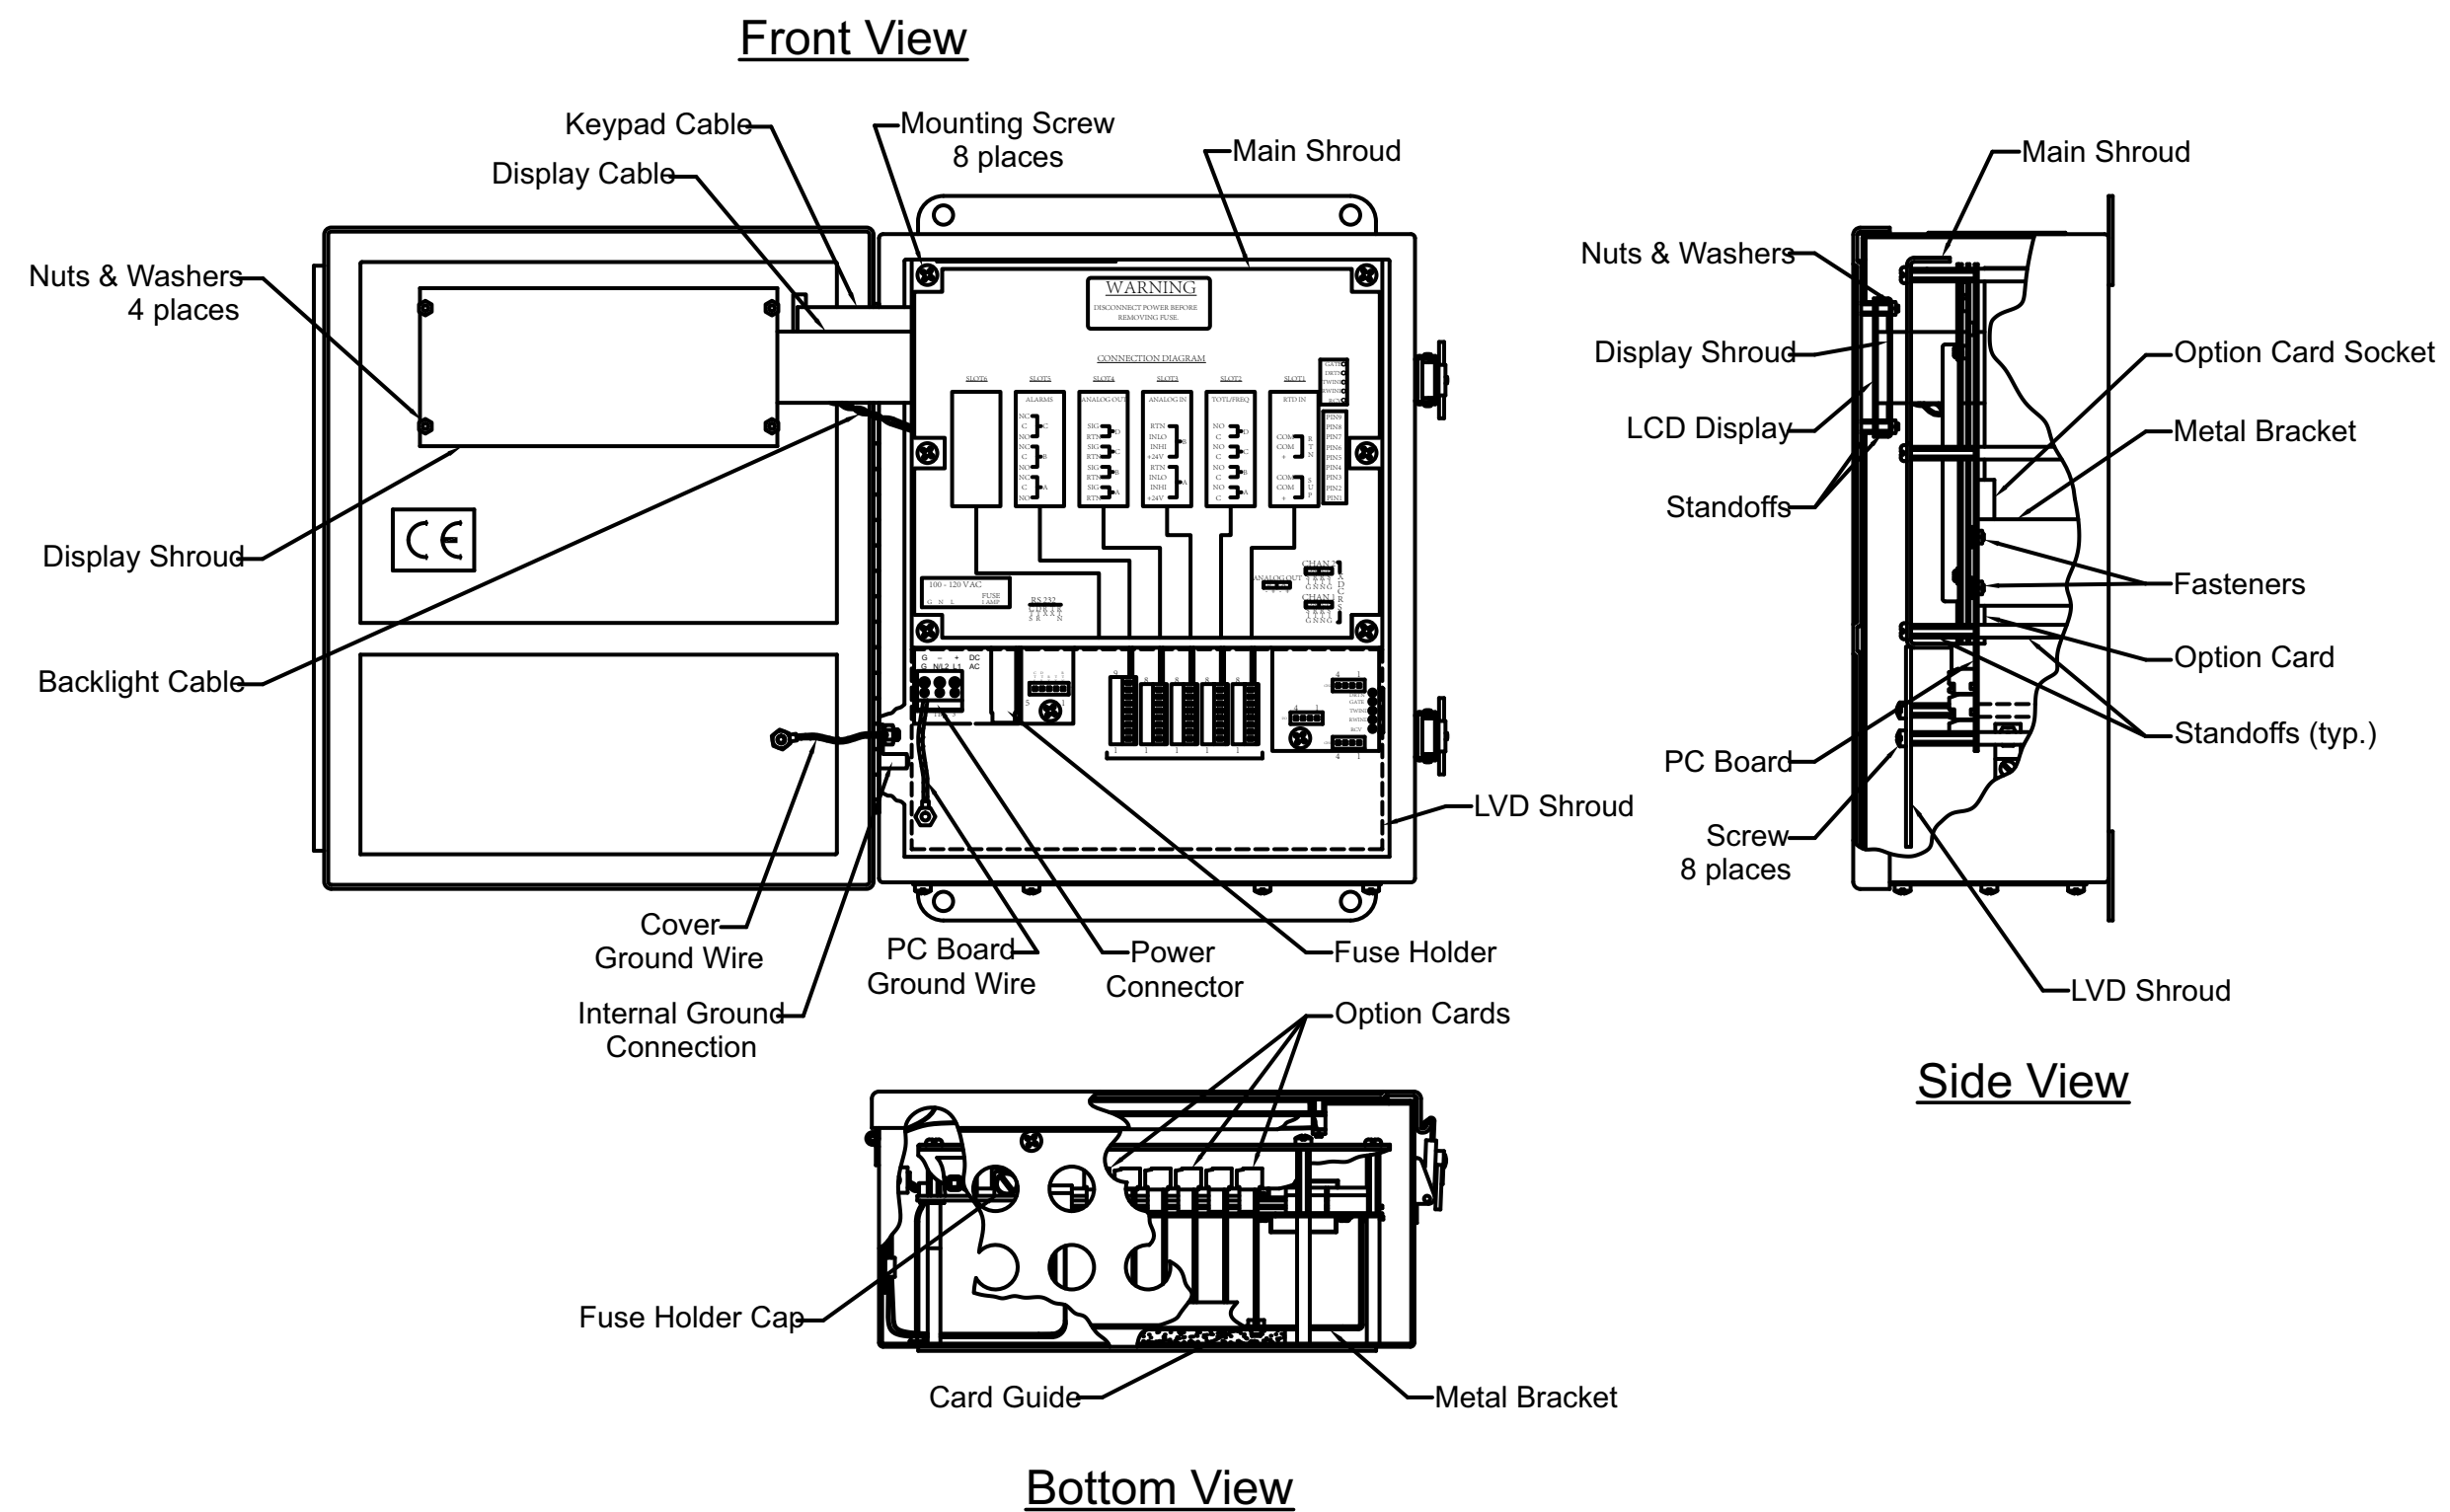
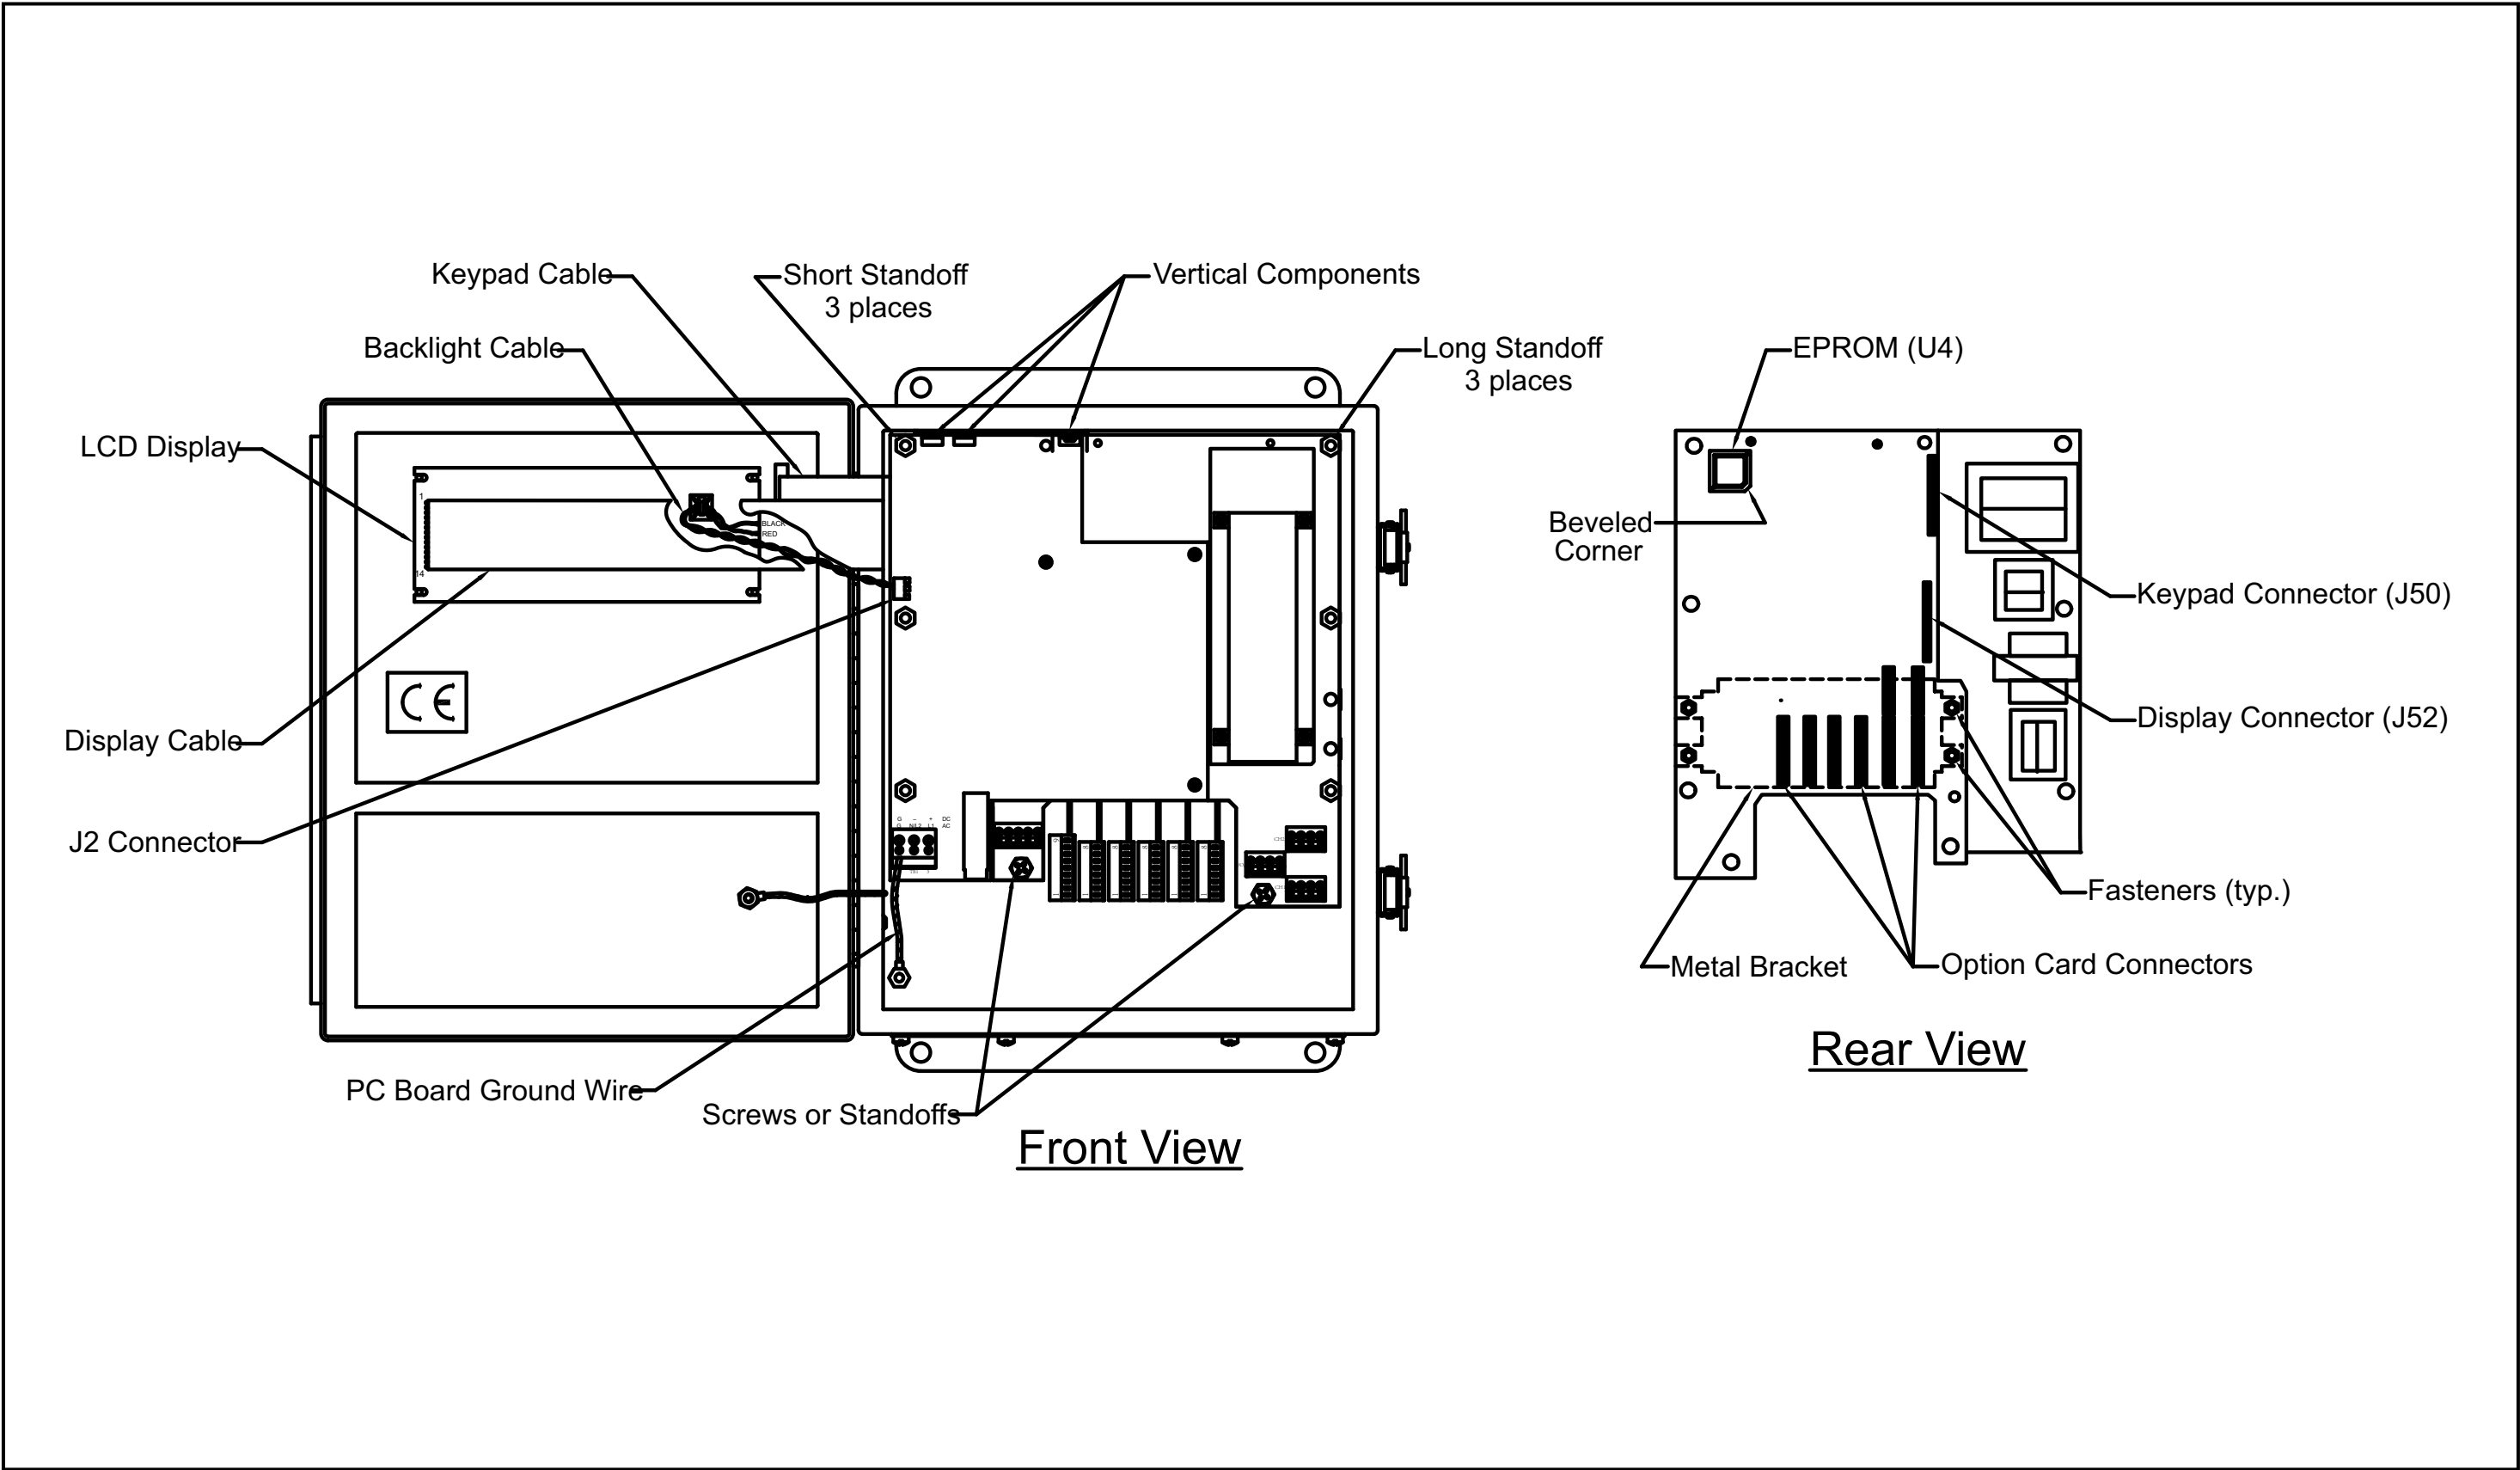

Figure 8: Standard Model GM868 – Electronics Console Assembly
Figure 9: Standard Model GM868 - Printed Circuit Board Assembly
All of the remaining maintenance procedures discussed in this chapter require removing the printed circuit board. To accomplish this task, refer to *Figure 8 on page 41* and *Figure 9 on page 42* while completing the following tasks:
CAUTION! During this procedure, be very careful not to damage the upright components along the top edge of the printed circuit board (see *Figure 9 on page 42*). Severe or repeated bending of these components will break their leads.
The Model GM868's *User Program* is stored on an erasable programmable read only memory (EPROM) chip. The EPROM, which is designated as component **U4**, is located in the top left corner of the rear of the printed circuit board (see *Figure 9 on page 42*). EPROM replacement may be required to replace a defective chip or to upgrade to a newer software version. To replace the EPROM, complete the following steps:
To install an option card, refer to *Figure 9 on page 42* and complete the following steps:
5. Place the metal bracket over the option cards, making sure that all option cards are aligned with the plastic card guides in the bracket. Secure the metal bracket to the printed circuit board with the snap rivets provided. See the installed assembly in *Figure 8 on page 41*.
The Model GM868's measurements are displayed on a two-pane LCD graphic display panel. The LCD display normally provides years of dependable service, but it is easily field-replaceable when necessary. To replace the LCD display, see *Figure 8 on page 41* for the component locations, and complete the following steps:
4. Place the new LCD display assembly over the mounting studs on the console cover and fasten it in place with the four standoffs. Make sure that the LCD display assembly is oriented as shown in *Figure 9 on page 42*.
Whether the printed circuit board was removed for replacement or for one of the other procedures discussed in this chapter, reinstallation of the printed circuit board is the final step in the process. Refer to *Figure 8 on page 41* and complete the following steps:
CAUTION! During this procedure, be very careful not to damage the vertical components along the top edge of the printed circuit board (see *Figure 9 on page 42*). Severe or repeated bending of these components will break their leads.
1. Position the printed circuit board within the electronics console with the top edge tilted forward. Insert the display ribbon cable and keypad ribbon cable connectors into their sockets on the rear of the printed circuit board. See *Figure 8 on page 41* and *Figure 9 on page 42* to identify the cables and sockets. Note that the keypad cable connects to the upper socket and the display cable connects to the lower socket.